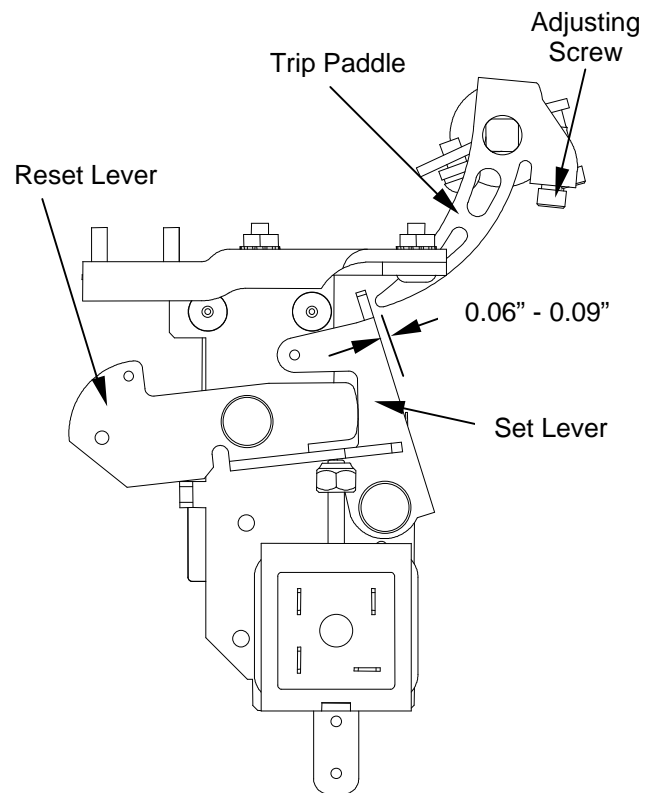

Figure 66. Trip paddle and set lever gap calibration. (Breaker charged. NI module shown in RESET position.)
6. Ensure the Network Interlock is in the RESET state (shown in Figure 66) by manually rotating the reset lever counterclockwise. If the Network Interlock was SET, this operation will cause the set lever to retract (counterclockwise) away from the trip paddle.
7. With the breaker open, charge the breaker closing springs. Do not close the breaker. Adjust the gap between the Network Interlock set lever and trip paddle by rotating the socket-head adjusting screw as shown in Figure 66. The distance between the set lever and the trip paddle must be between 0.060 and 0.090 inch.